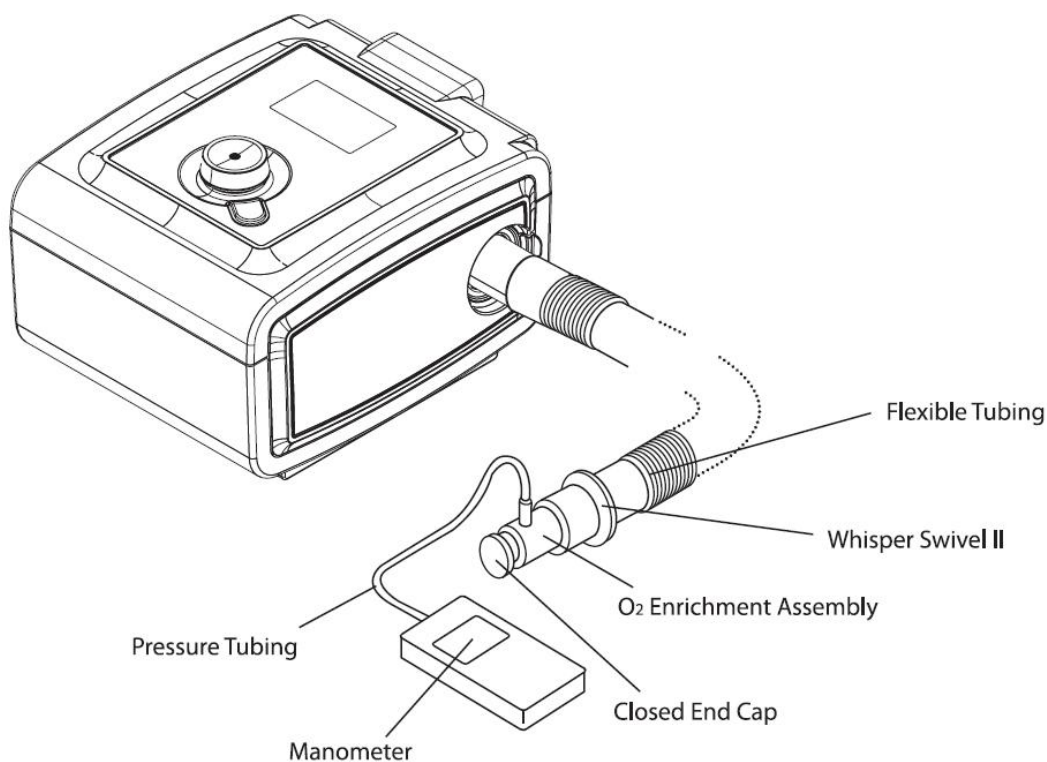

FIGURE 8-17: PERFORMANCE VERIFICATION SETUP
2. With the device unplugged, connect the system as shown in Figure 8-17.